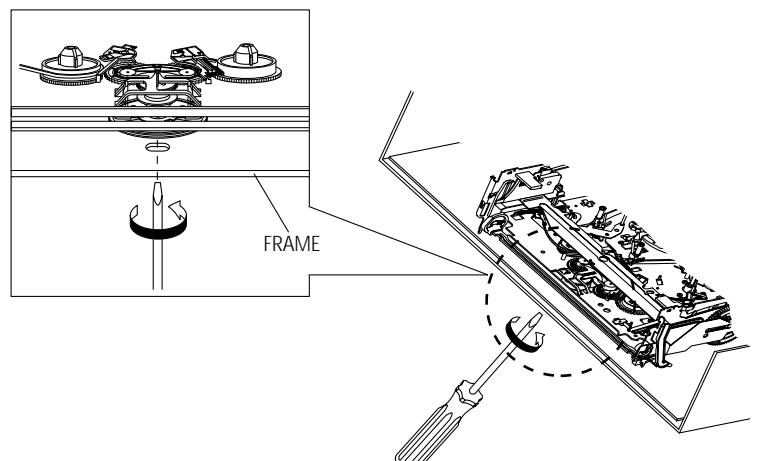

Fig. 3
- When Slider S, T are approached in the position of unloading, rotate holder Clutch counterclockwise after inserting screw driver in the hole of frame's bottom in order to wind the unwounded tape. (Refer to Fig. 3)